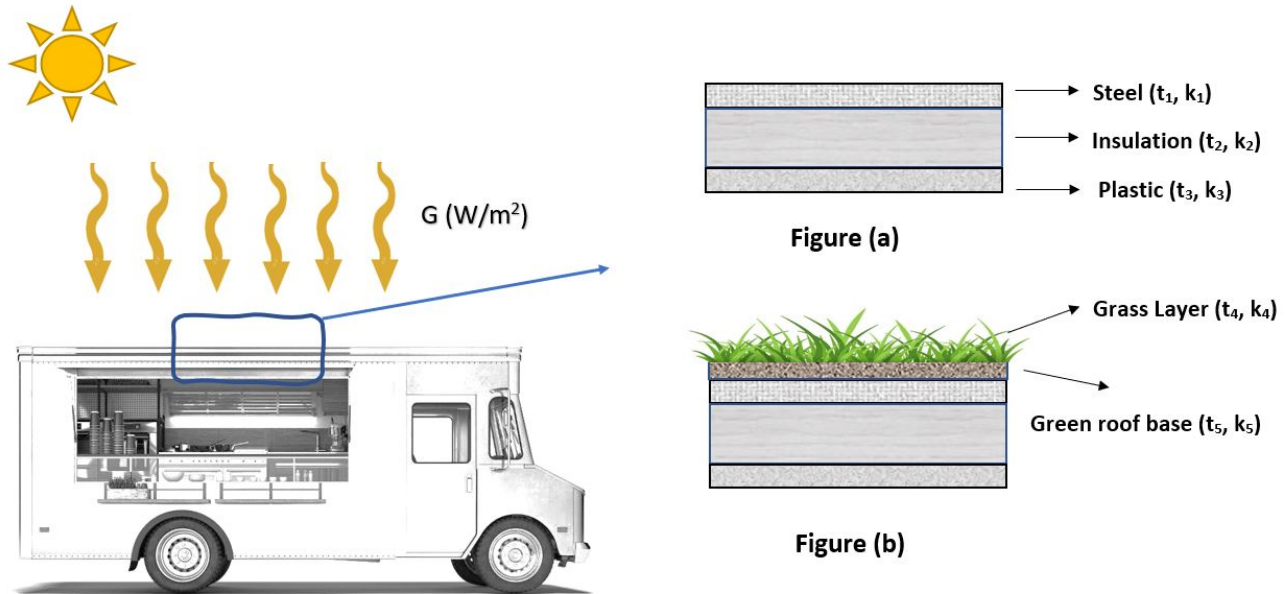

Figure 6.1: Cross-section of the food truck roof.
During scorching summer days, the food truck crafted by UT IDE students sets up near the sports center. The outdoor temperature sizzles at $T_i = 35^\circ\text{C}$, with still air and a sunny blast of solar energy at $G = 1100\text{ W m}^{-2}$. In the original design, captured in Figure 6.1 (a), the roof of the food truck compartment embraces a composite structure. This blend involves insulation ($t_2 = 60\text{ mm}$, $k_2 = 0.036\text{ W m}^{-1}\text{ K}$), snugly nestled between a steel panel ($t_1 = 4\text{ mm}$, $k_1 = 130\text{ W m}^{-1}\text{ K}$) atop, boasting a reflectivity of 0.9. Beneath, an interior plastic panel ($t_3 = 5\text{ mm}$, $k_3 = 0.26\text{ W m}^{-1}\text{ K}$) wraps up the ensemble.
- One of the group members suggested using a green roof for the food truck, as shown in Figure 6.1 (b), to save energy for cooling by adding grass layer ($t_4 = 10\text{ mm}$, $k_4 = 0.038\text{ W m}^{-1}\text{ K}$) with reflectivity of 0.95 and green roof base layer ($t_5 = 15\text{ mm}$, $k_5 = 0.36\text{ W m}^{-1}\text{ K}$). Determine the temperature of the roof surface and the temperatures of each layer, and then draw a temperature profile within the roof structure and outside air.